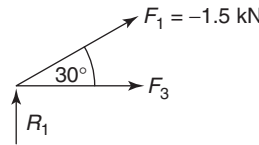

Figure 4.29
Consider next joint (2), as it now has two or less unknown forces; see Figure 4.29.